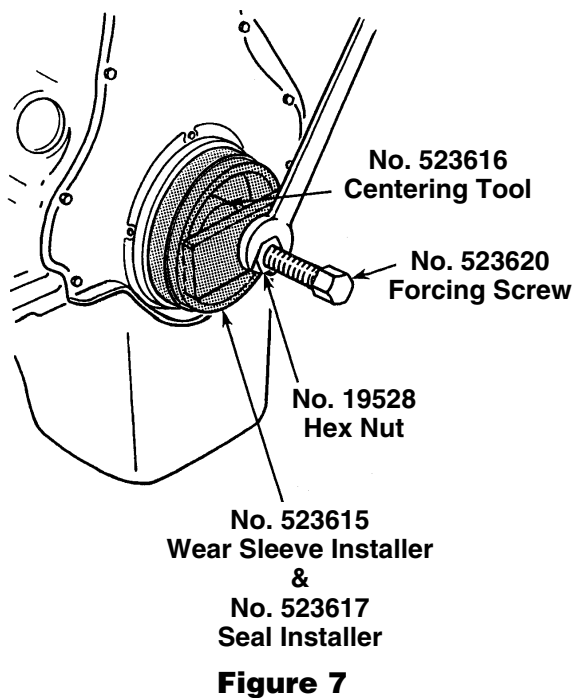

Figure 7
- Install the seal installer and No. 523615 wear sleeve installer over the centering tool. Thread No. 19528 hex nut onto No. 523620 forcing screw. Install forcing screw assembly through the seal and wear ring installer into the centering tool. Tighten the nut on the forcing screw to press the seal and wear ring into place. See Figure 7.